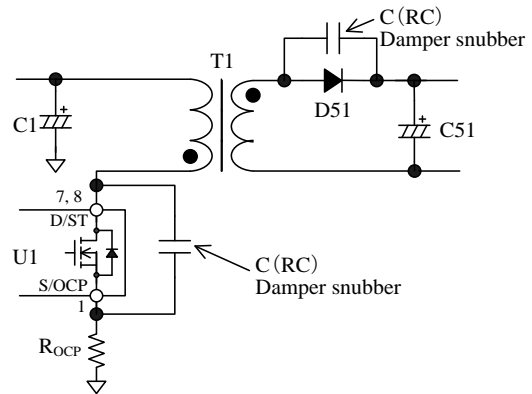

Figure 10-15. Damper Snubber
In addition, if a C (RC) damper snubber of Figure 10-15 is used, reduce the capacitor value of damper snubber.